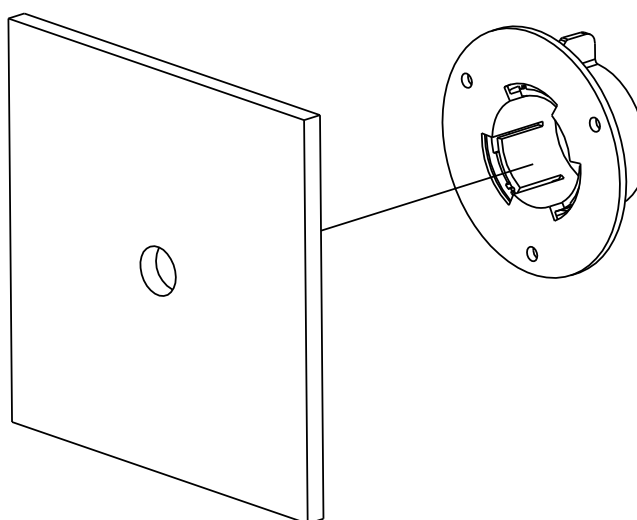

Figure 4-52 Paste the Bracket
2. Remove a side of the adhesive tape on the bracket. Paste the bracket on the mounting surface with aligning with the drilling hole. As shown in Figure 4-52.